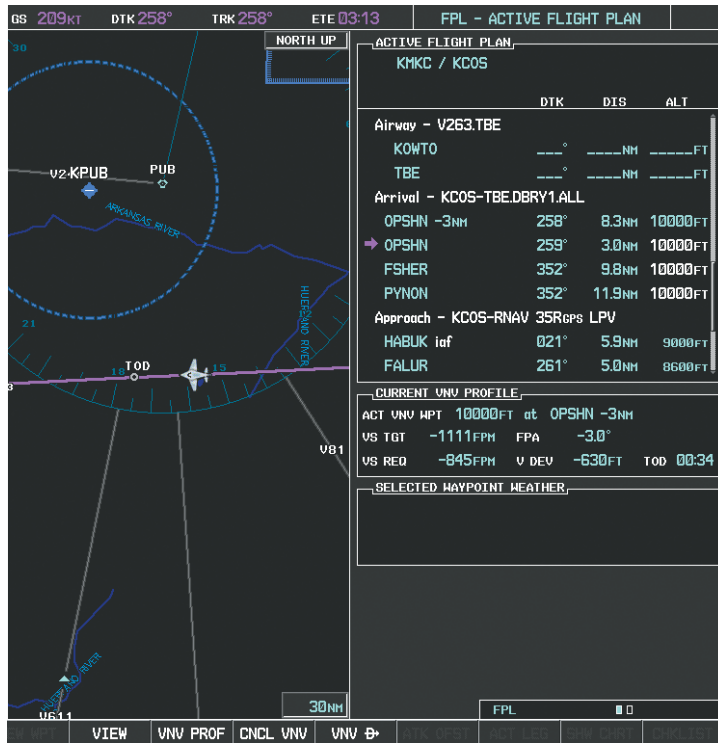
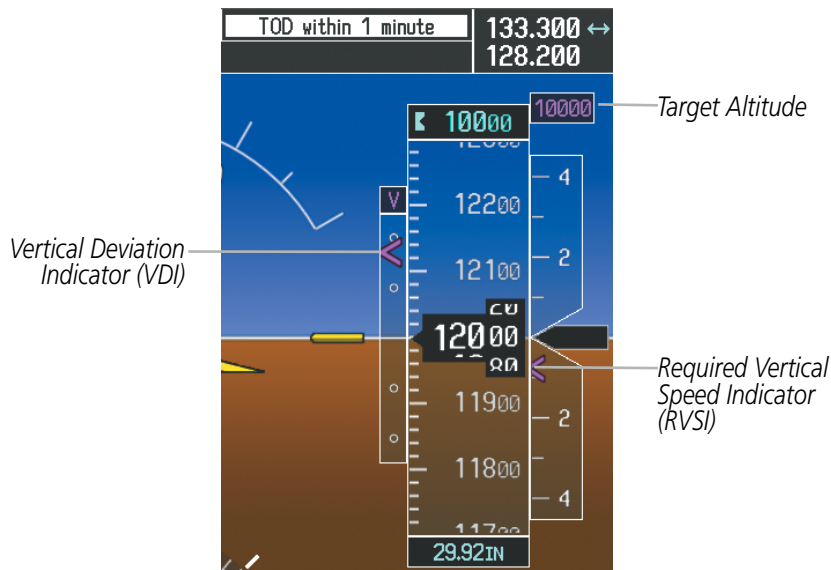

Figure 5-138 Approaching Top of Descent (TOD)
Figure 5-139 VDI & RVSI Upon Reaching Top of Descent (TOD)
15) As seen in Figure 5-138, the aircraft is approaching TOD. Note the target vertical speed required to reach the selected altitude. The Vertical Deviation Indicator (VDI) and the Required Vertical Speed Indicator (RVSI) are now displayed on the PFD as shown in Figure 5-139. When the aircraft is within one minute of the TOD, it is annunciated as shown in Figure 5-139, and an aural alert 'Vertical track' will be heard.